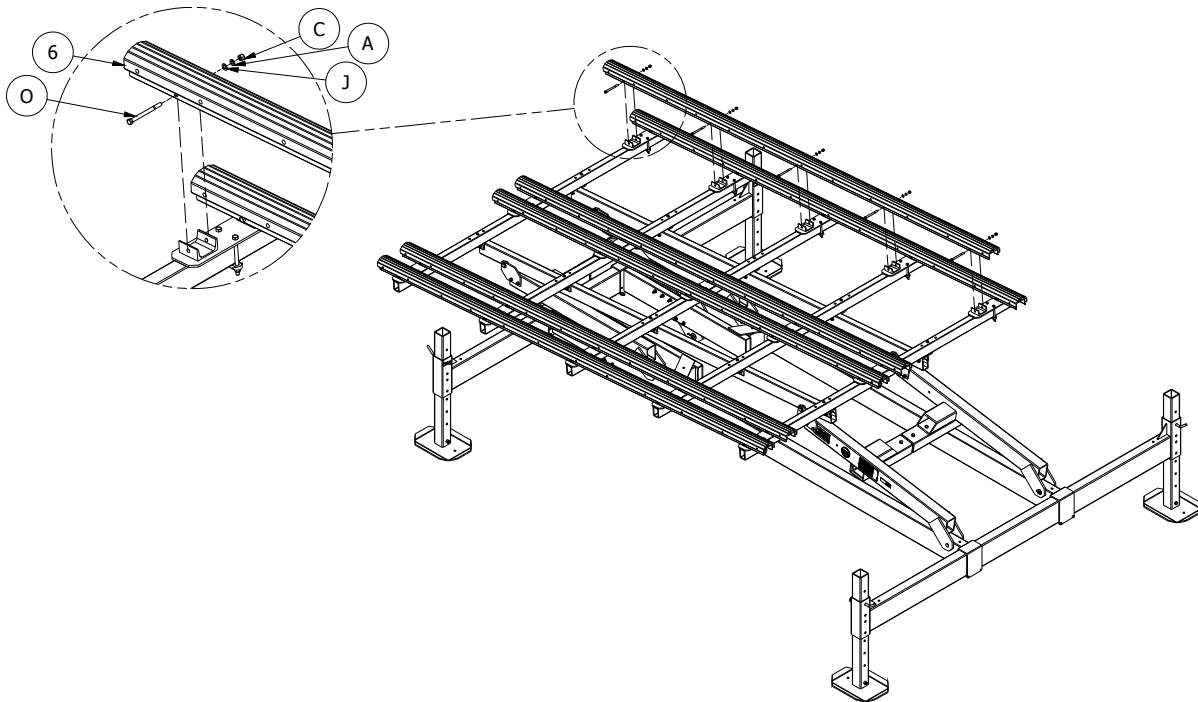

Figure 2-7.
1. Refer to Figure 2-7. Position one P&T Toon A/V cradle bracket (2), near end of a cross support tube (7).
2. Loosely attach bracket using one, two hole plate (1), and two each hex screw (F), and hex lock nut (B). **DO NOT TIGHTEN AT THIS TIME.**
4. Place an A/V Bunk (6) over the channels on one side of cradle brackets and align holes.
5. Loosely secure bunk using one each; hex screw (O), flat washer (J), lock washer (A), and hex nut (C) at each channel. **DO NOT TIGHTEN AT THIS TIME.**